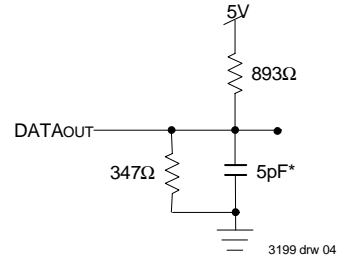

Figure 2. Output Test Load
1. Transition is measured 0mV from Low or High-impedance voltage with Output Test Load (Figure 2).
7. This parameter is guaranteed by device characterization, but is not production tested. Transition is measured 0mV from steady state with the Output Test Load (Figure 2).